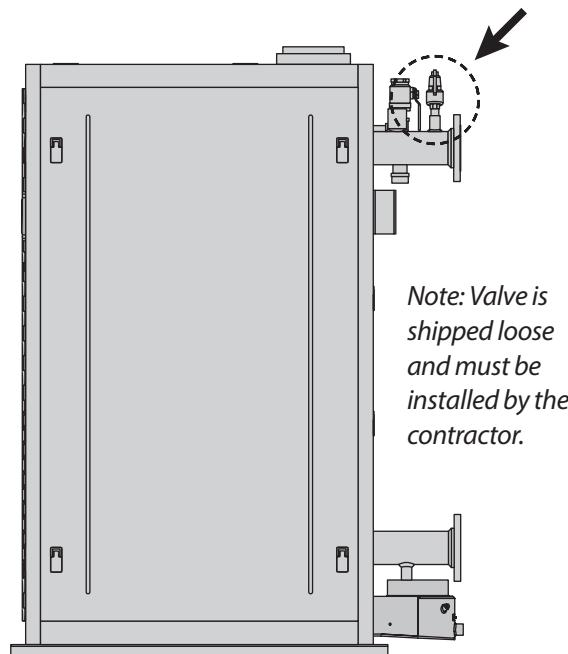

FIGURE 2 - SAFETY VALVE LOCATION
1. The safety relief valve (Figure 2) must: